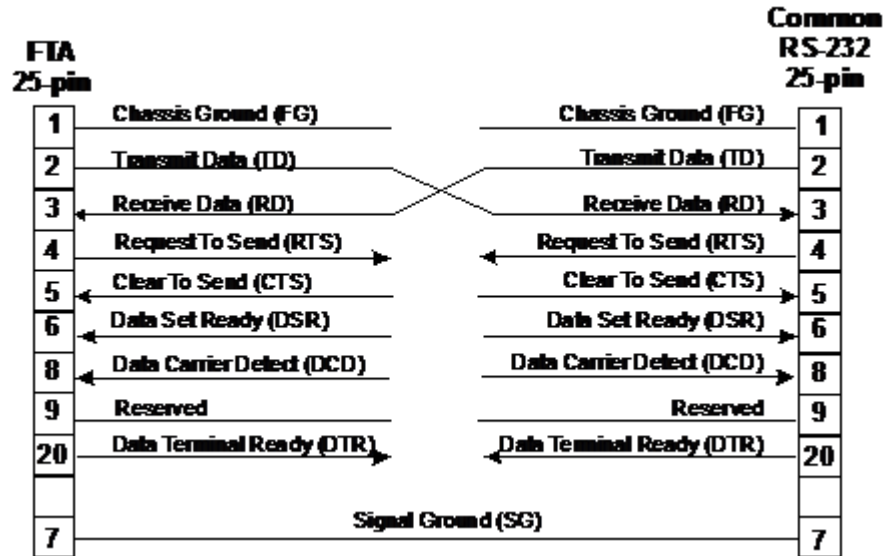

Figure 6: Pins common to RS-232 25-pin connector and FTA J2, DB-25 type connector.
You will need a null modem cable with a 25-pin, male connector to connect the EIA-232 Allen-Bradley device to the J2, DB-25 type connector (female) on the FTA. Use the J2 connector pinout data in the previous “Figure 6: Pins common to RS-232 25-pin connector and FTA J2, DB-25 type connector.”Figure to construct the EIA-232 interface cable. Since individual A-B device connections may vary, be sure to modify the common EIA-232 pinouts shown in the Figure, so that the FTA Transmit Data pin (2) connects to the A-B device Receive Data pin and the FTA Receive Data pin (3) connects to the A-B device Transmit Data pin. Refer to the pinout description in the Allen-Bradley device manual and the “Special FTA to KE/KF cabling considerations” on page 94 in the *Allen-Bradley Interface Reference* section. Observe the following general cabling guidelines.